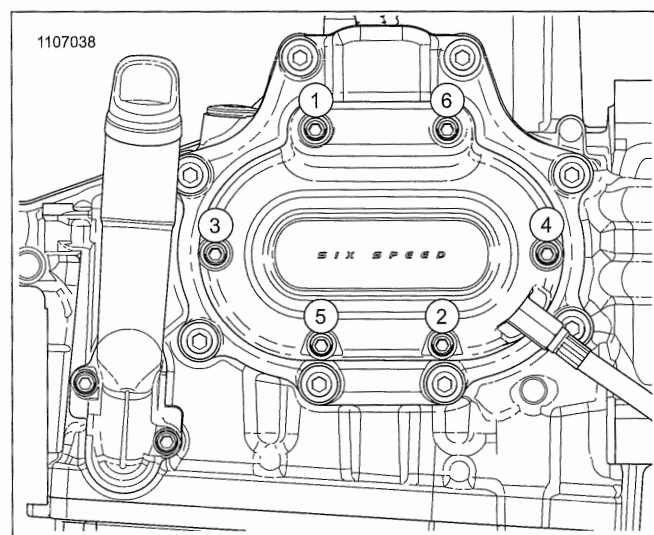

Figure 5-5. Clutch Release Cover Torque Sequence (Short Screws at Locations 1 and 6)
1. See Figure 5-5. Remove screws.
See Figure 5-5. Clutch release cover screws in positions (1) and (6) are shorter than the others.